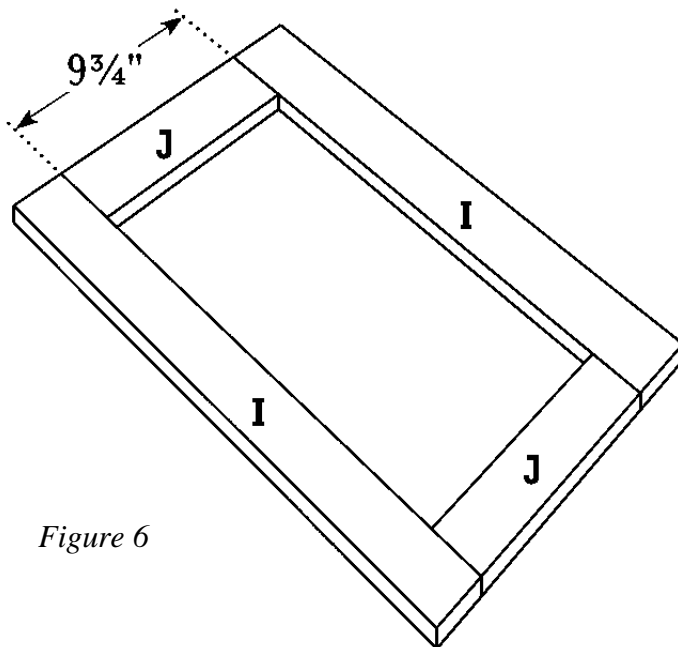

Figure 6
1. Cut two Upper Panels (H) from 3/8" plywood, each measuring 19-3/4 x 11-3/8 inches.
2. Cut four Upper Vertical Trims (I) from 1 x 3 pine, each measuring 21-3/4 inches.
3. Cut four Upper Horizontal Trims (J) from 1 x 3 pine, each measuring 8-3/4 inches long
4. Position two of the Upper Vertical Trims (I) face down on a level surface, parallel to each other and 8-3/4 inches apart. Position two of the Upper Horizontal Trims (J) between the Upper Vertical Door Trims (I), as shown in *Figure 6*. Apply glue on the meeting surfaces. Hold the trims in place temporarily using bar clamps.
7. Cut two Lower Panels (K) from $\frac{3}{8}$ " plywood, each measuring $15\frac{1}{4} \times 11\frac{3}{8}$.
8. Cut four Lower Vertical Trims (L) for the door from 1 x 3 pine, each measuring $17\frac{1}{4}$ inches.
9. Cut four Lower Horizontal Trims (M) for the door from 1 x 3 pine, each measuring $8\frac{3}{4}$ inches.
10. Position two of the Lower Vertical Trims (L) face down on a level surface parallel to each other and $8\frac{3}{4}$ inches apart. Position two of the Lower Horizontal Trims (M) between the Lower Vertical Trims (I) $12\frac{1}{4}$ inches apart, as shown in *Figure 6*. Apply glue to the meeting surfaces, and use bar clamps to hold the horizontal and vertical door trims (L and M) in place temporarily.